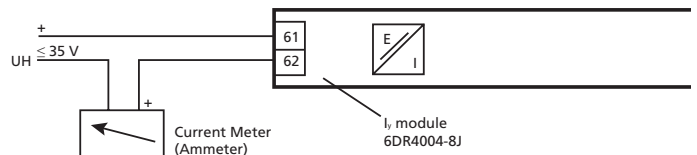

Figure 8. - Iy module 6DR4004-8J, not Ex
4. Refer to Figure 8 and Figure 9 to connect the Iy module in standard and intrinsically safe applications.